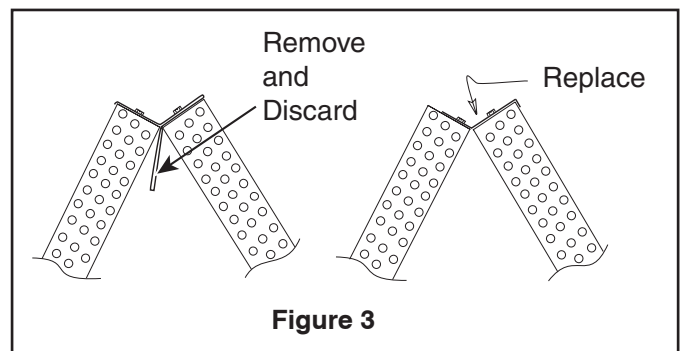

Figure 3
- On models 5TXCC005, 5TXCB006, 5TXCC007, 5TXCD008, and 5TXCC009 only, remove the factory installed two-piece baffle assembly from the top of the coil by removing the 5/16" hex head screws and discard the inner water management baffle. See Figure 3. Replace only the top baffle using the same screws previously provided.
- b. On models 5PXC*05, 5PXC*06, 5PXC*07, 5PXC*08, and 5PXC*09 only, remove the factory installed two-piece baffle assembly from the top of the coil by removing the 5/16" hex head screws and discard the inner water management baffle. See Figure 3. Replace only the top baffle using the same screws previously provided.